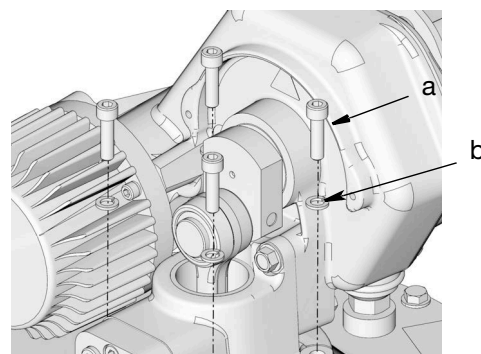

FIG. 8
6. Align holes in pump base with holes in tank / reservoir cover (FIG. 8). Securely fasten pump to tank / reservoir cover using screws (a) and washers (b) removed in Step 1, page 8, torque to 28 +/- 3 ft lbs.